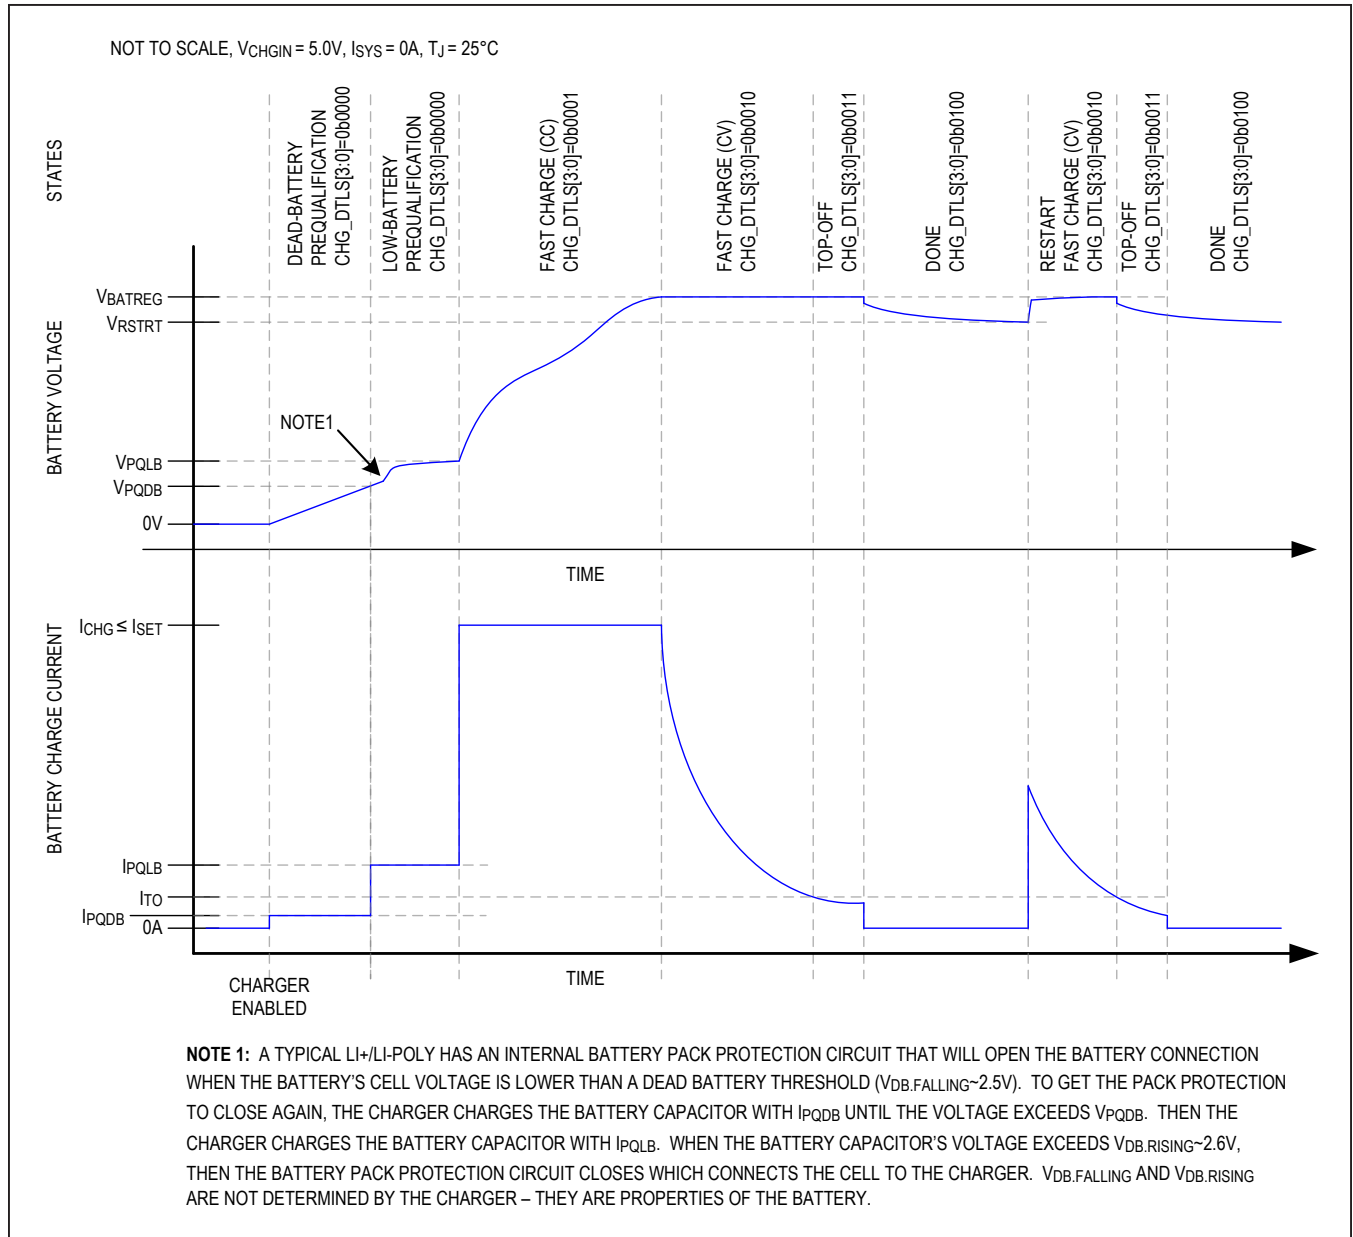
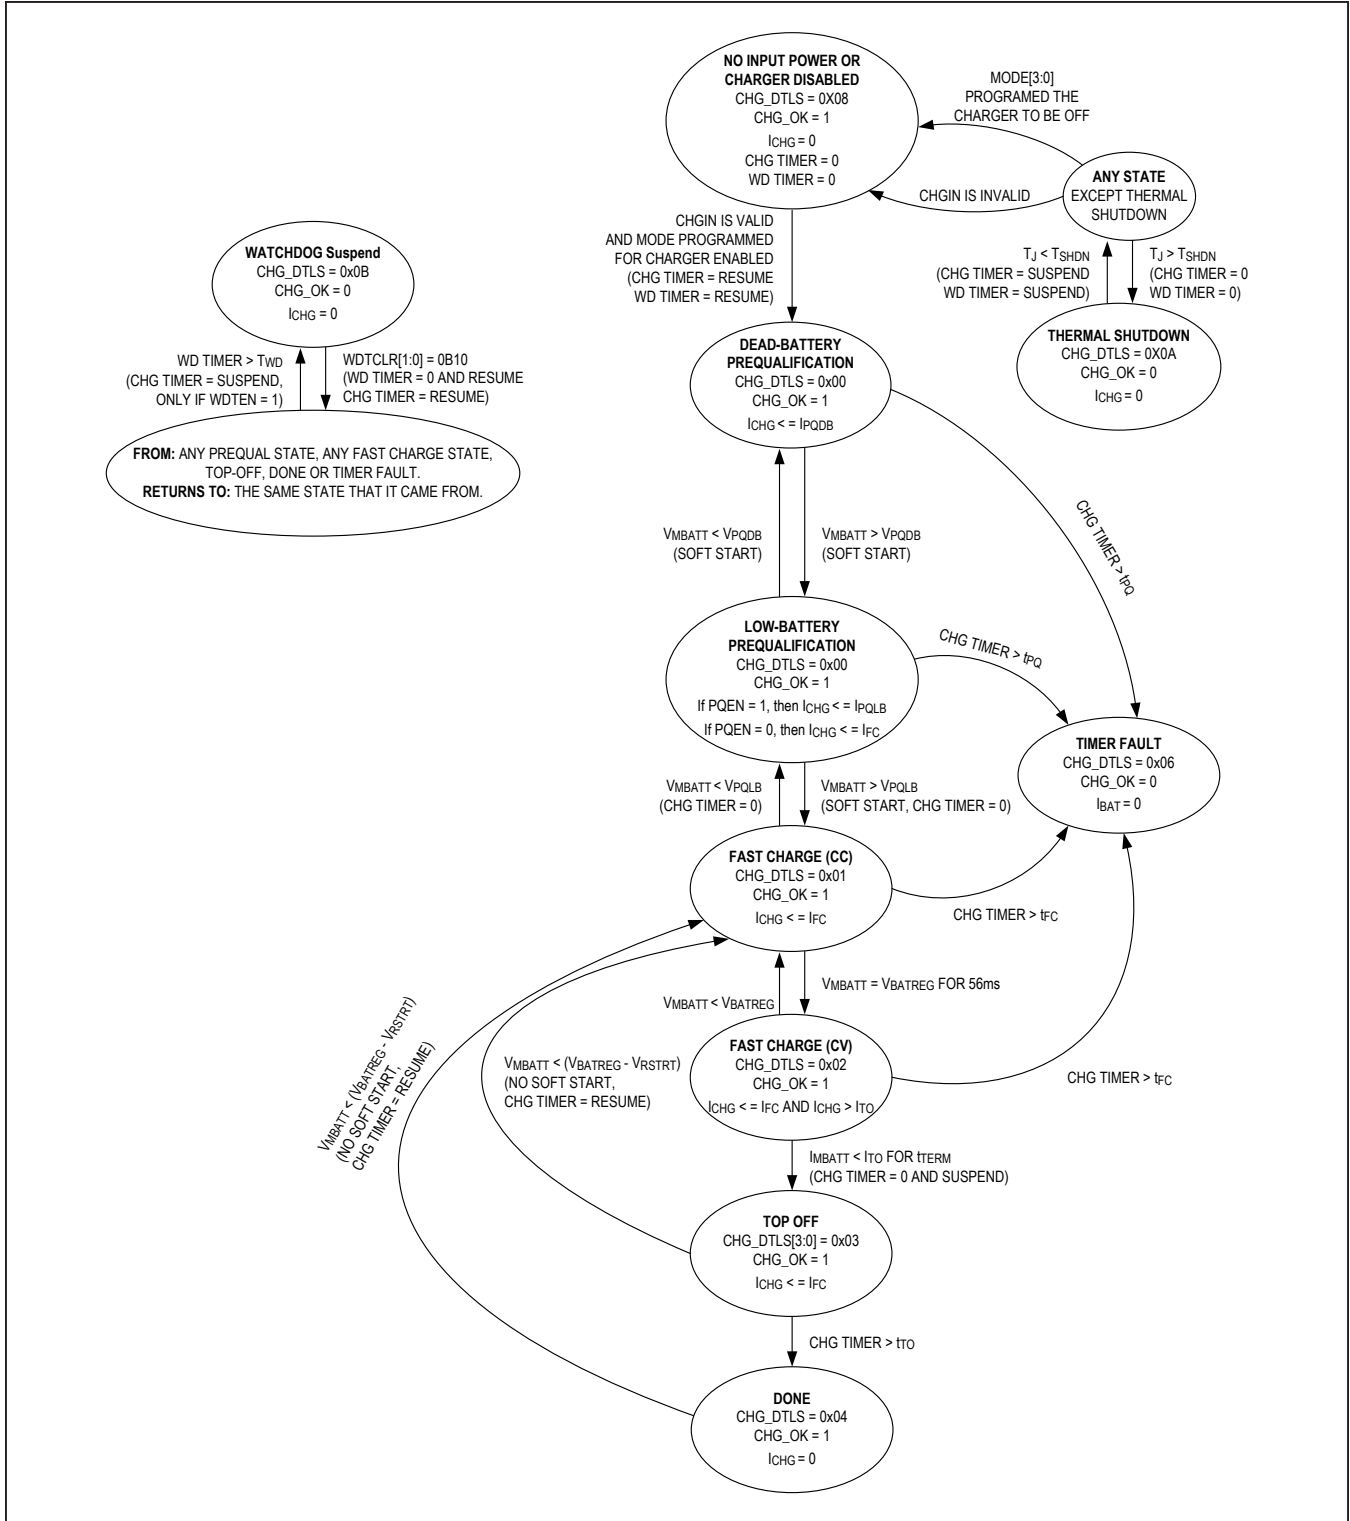

Figure 6. Li+/Li-Poly Charge Profile
Figure 7. Charger State Diagram
The MAX77818 utilizes several charging states to safely and quickly charge batteries as shown in Figure 6 and Figure 7. Figure 6 shows an exaggerated view of a Li+/Li-Poly battery progressing through the following charge states when there is not system load and the die and battery are close to room temperature: prequalification → fast-charge → top-off → done.
From any state shown in Figure 7 except thermal shutdown, the no input power or charger disabled state is entered whenever the charger is programmed to be off or the charger input CHGIN is invalid. After being in this state for  $t_{SCIDG}$ , a CHG\_I interrupt is generated, CHG\_OK is set and CHG\_DTLS is set to 0x08
As shown in Figure 7, the dead battery prequalification state occurs when the main battery voltage is less than  $V_{PQDB}$ . After being in this state for  $t_{SCIDG}$ , a CHG\_I interrupt is generated, CHG\_OK is set and CHG\_DTLS is set to 0x00. In the dead battery prequalification state charge current into the battery is  $I_{PQDB}$ .
As shown in Figure 7, the fast-charge constant current (CC) state occurs when the main battery voltage is greater than the low battery prequalification threshold and less than the battery regulation threshold ( $V_{PQLB} < V_{BATT} < V_{BATREG}$ ). After being in the fast-charge CC state for  $t_{SCIDG}$ , a CHG\_I interrupt is generated, CHG\_OK is set and CHG\_DTLS = 0x01.
As shown in Figure 7, the fast-charge constant voltage (CV) state occurs when the battery voltage rises to  $V_{BATREG}$  from the fast-charge CC state. After being in the fast-charge CV state for  $t_{SCIDG}$ , a CHG\_I interrupt is generated, CHG\_OK is set and CHG\_DTLS = 0x02.
In the fast-charge CV state the battery charger maintains  $V_{BATREG}$  across the battery and the charge current is less than or equal to  $I_{FC}$ . As shown in Figure 6, charger current decreases exponentially in this state as the battery becomes fully charged.
As shown in Figure 7, the top-off state can only be entered from the fast-charge CV state when the charger current decreases below  $I_{TO}$  for  $t_{TERM}$ . After being in the top-off state for  $t_{SCIDG}$ , a  $CHG\_I$  interrupt is generated,  $CHG\_OK$  is set and  $CHG\_DTLS = 0x03$ . In the top-off state the battery charger tries to maintain  $V_{BATREG}$  across the battery and typically the charge current is less than or equal to  $I_{TO}$ .
As shown in Figure 7, the battery charger enters its done state after the charger has been in the top-off state for  $t_{TO}$ . After being in this state for  $t_{SCIDG}$ , a  $CHG\_I$  interrupt is generated,  $CHG\_OK$  is cleared and  $CHG\_DTLS = 0x04$ .
The battery charger provides both a charge timer and a watchdog timer to ensure safe charging. As shown in Figure 7, the charge timer prevents the battery from charging indefinitely. The time that the charger is allowed to remain in its each of its prequalification states is  $t_{PQ}$ . The time that the charger is allowed to remain in the fast-charge CC and CV states is  $t_{FC}$  which is programmable with  $FCHGTIME$ . Finally, the time that the charger is in the top-off state is  $t_{TO}$ , which is programmable with  $TO\_TIME$ . Upon entering the timer fault state a  $CHG\_I$  interrupt is generated without a delay,  $CHG\_OK$  is cleared and  $CHG\_DTLS = 0x06$ .
In the timer fault state the charger is off. The charger can exit the timer fault state by programming the charger to be off and then programming it to be on again through the  $MODE$  bits. Alternatively, the charger input can be removed and reinserted to exit the timer fault state. See the any state bubble in the upper right of Figure 7.
The battery charger provides both a charge timer and a watchdog timer to ensure safe charging. As shown in Figure 7, the watchdog timer protects the battery from charging indefinitely in the event that the host hangs or otherwise cannot communicate correctly. The watchdog timer is disabled by default with  $WDTEN = 0$ . To use
As shown in Figure 7, the thermal shutdown state occurs when the battery charger is in any state and the junction temperature ( $T_J$ ) exceeds the device's thermal shutdown threshold ( $T_{SHDN}$ ). When  $T_J$  is close to  $T_{SHDN}$ , the charger has folded back the input current limit to 0A so the charger and inputs are effectively off. Upon entering this state, CHG\_I interrupt is generated without a delay, CHG\_OK is cleared, and CHG\_DTLS = 0x0A.